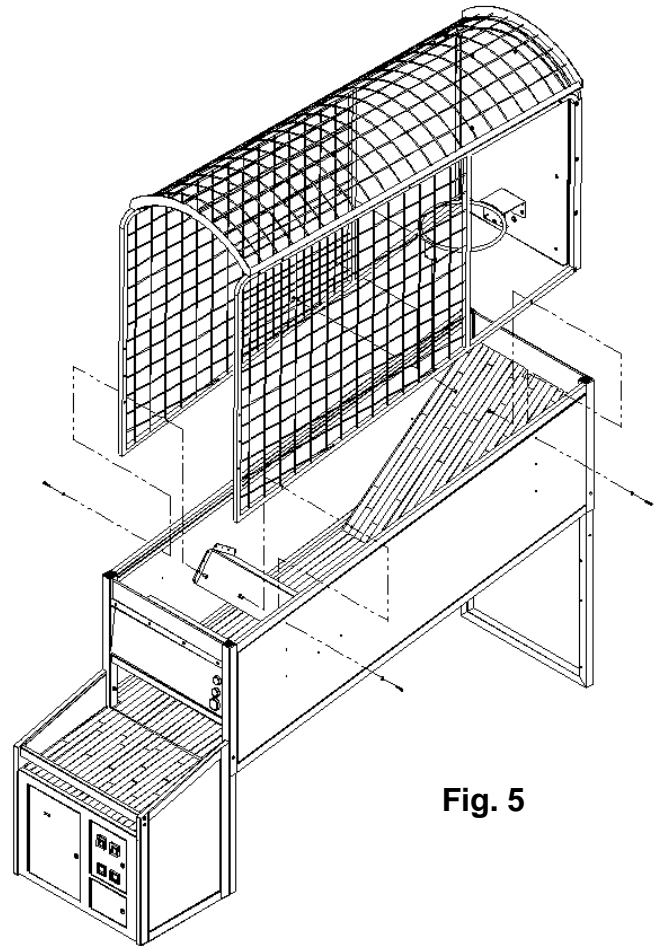

Fig. 5
- Install the Frame assembly to the game. It can be adjusted to three heights: 9ft., 8 1/2 ft. and 8 ft. Please install to the highest possible height. Install by lifting the frame inside the game to one of the 3 sets of mounting holes, and secure with (4) 1/4-20 X 1 1/2" button head screws, (4) flat black washers (from the outside of the cabinet) and (4) 1/4-20 joint connectors. (from the inside of the cabinet) (See Fig. 5)